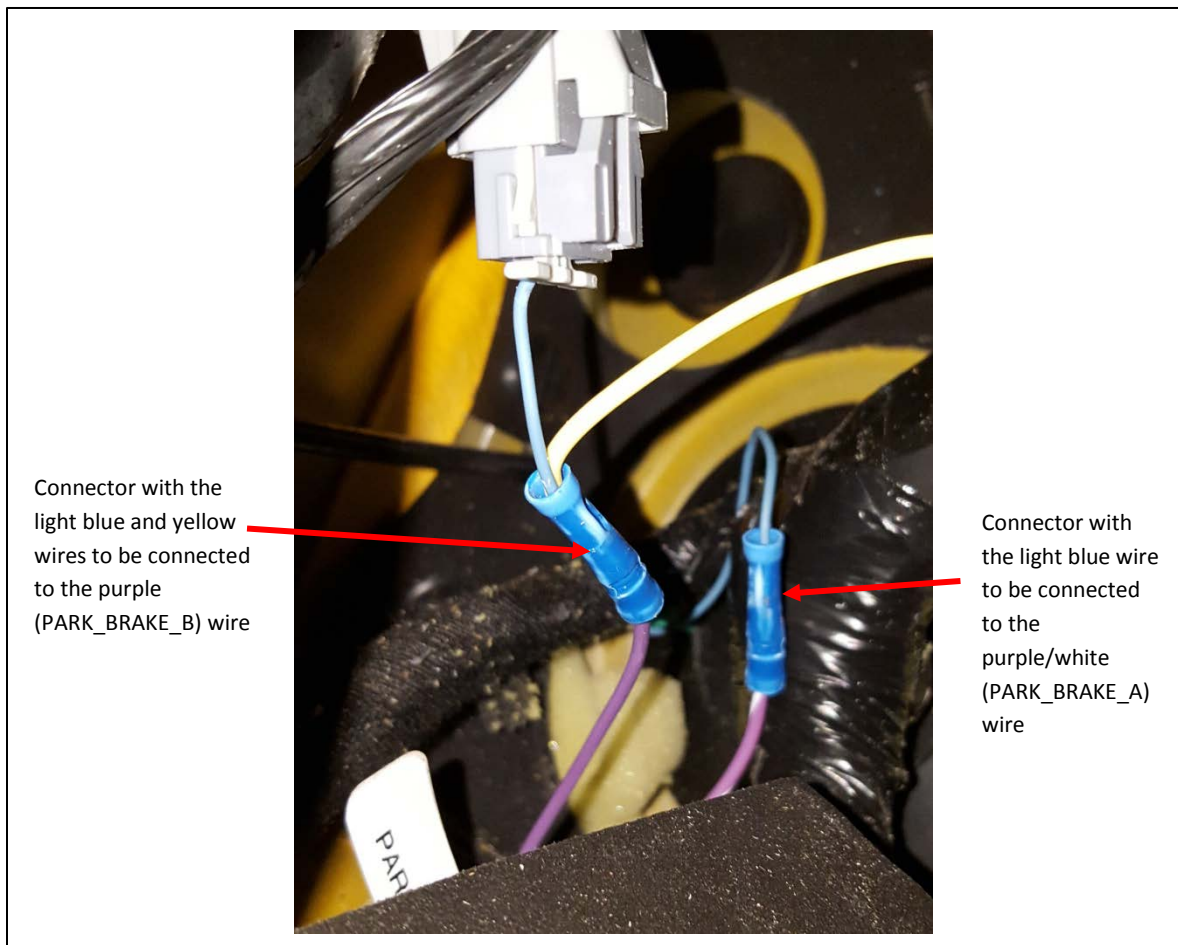

Figure 9, Park brake wiring connections
16. If not already cut, cut the light blue wire coming from the park brake. Butt-splice the purple/white wire (PARK_BRAKE_A) to the end of the light blue wire that is going to the harness. See **Figure 9**.